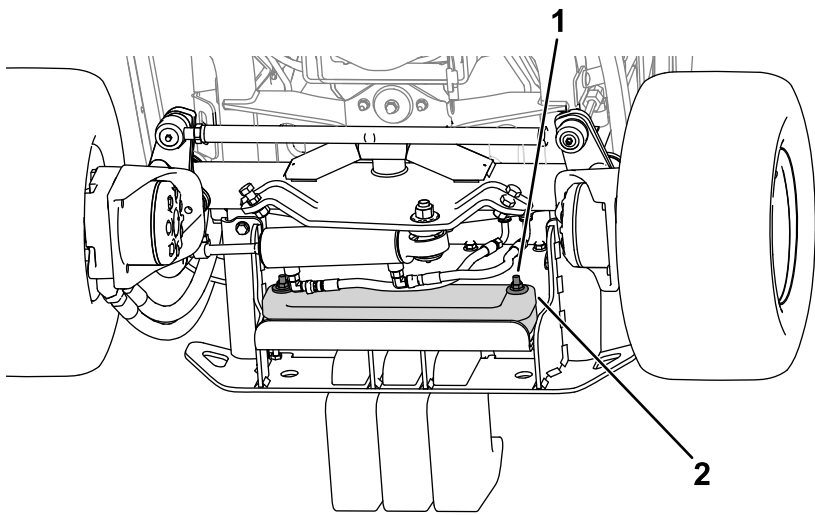

Figure 18
- 2. Use the hardware to secure the weights to the bumper (Figure 18).